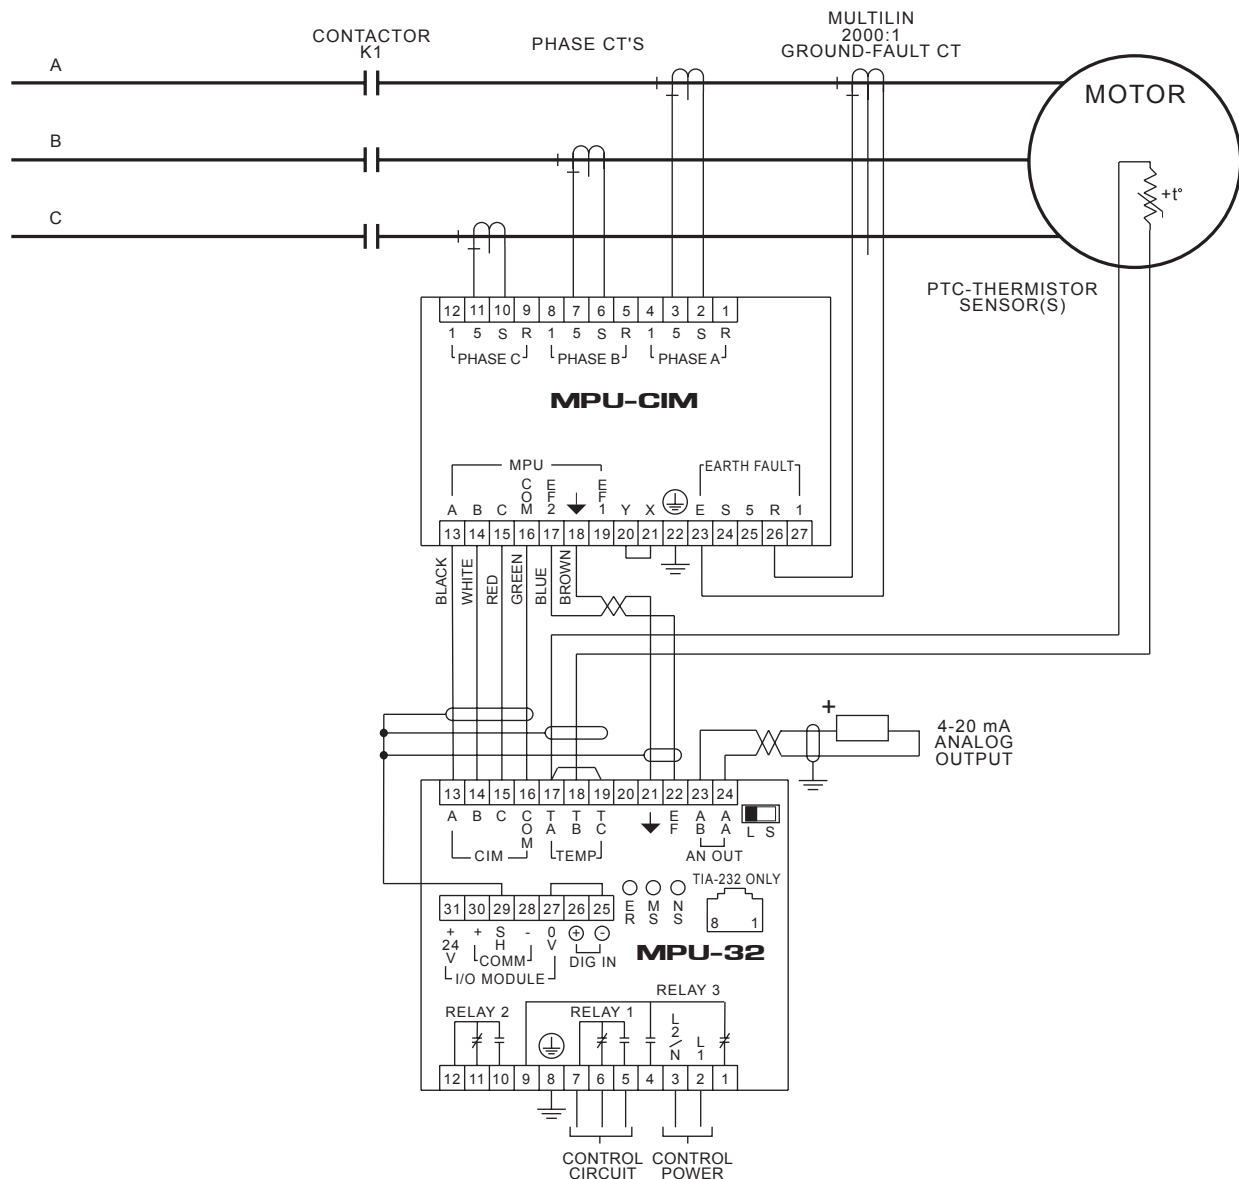

Figure 2: Wiring Installation
The MPU-32 can use the existing phase CTs, ground-fault CT, thermistor, control power, and control wiring as shown in Figure 2. All connections and settings in this document assume a Multilin 2000:1 CT is used for ground-fault-current sensing. When the Multilin 2000:1 CT is connected to the sensitive input terminals 23 and 26 on the MPU-CIM, it will appear as a 100 A primary CT. Refer to TI. 11.7 GE Multilin 2000:1 CT Compatibility with Startco Relays for more information.
* Terminal 5 on the P4A is a common between the thermistor and the 4-20 mA analog output. The MPU-32 requires these to be separately connected as shown in Figure 2.